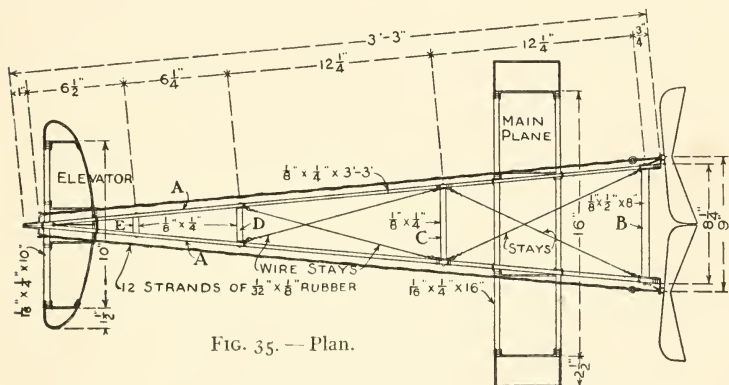

FIG. 35. — Plan.
**Fuselage**, or *motor base*. This consists of two side sticks, *splines*, or *spars* (A, Fig. 35) of straight-grained white pine cut to the dimensions marked upon the drawing, with their bow ends beveled off for a distance of  $1\frac{1}{4}$  inches, glued together, and bound with thread. The stern ends have a spread of 8 inches,
and are braced at that distance by the *separator B* (Fig. 35). This separator is fastened flatwise between sticks A, and its edges are reduced as shown in the small section drawing of Fig. 37 so they will offer less resistance to the air.
This piece is fastened between sticks *A* with brads. Separators *C*, *D*, and *E* are of the sizes marked in Fig. 35, and of the proper length to fit between side sticks *A* at the
FIGS. 35 and 36.—Working-Drawings of Model Aeroplane Designed and Built by Harry Wells.
the main plane will vary under different air conditions, sometimes being placed over the separator *C*, and at other times closer to separator *B* than is shown in Fig. 35. Therefore, you must adjust your plane and elevator — this operation is known as *tuning* — to suit the condition of the atmosphere, until you find the positions where they will give the machine the greatest stability. A great factor